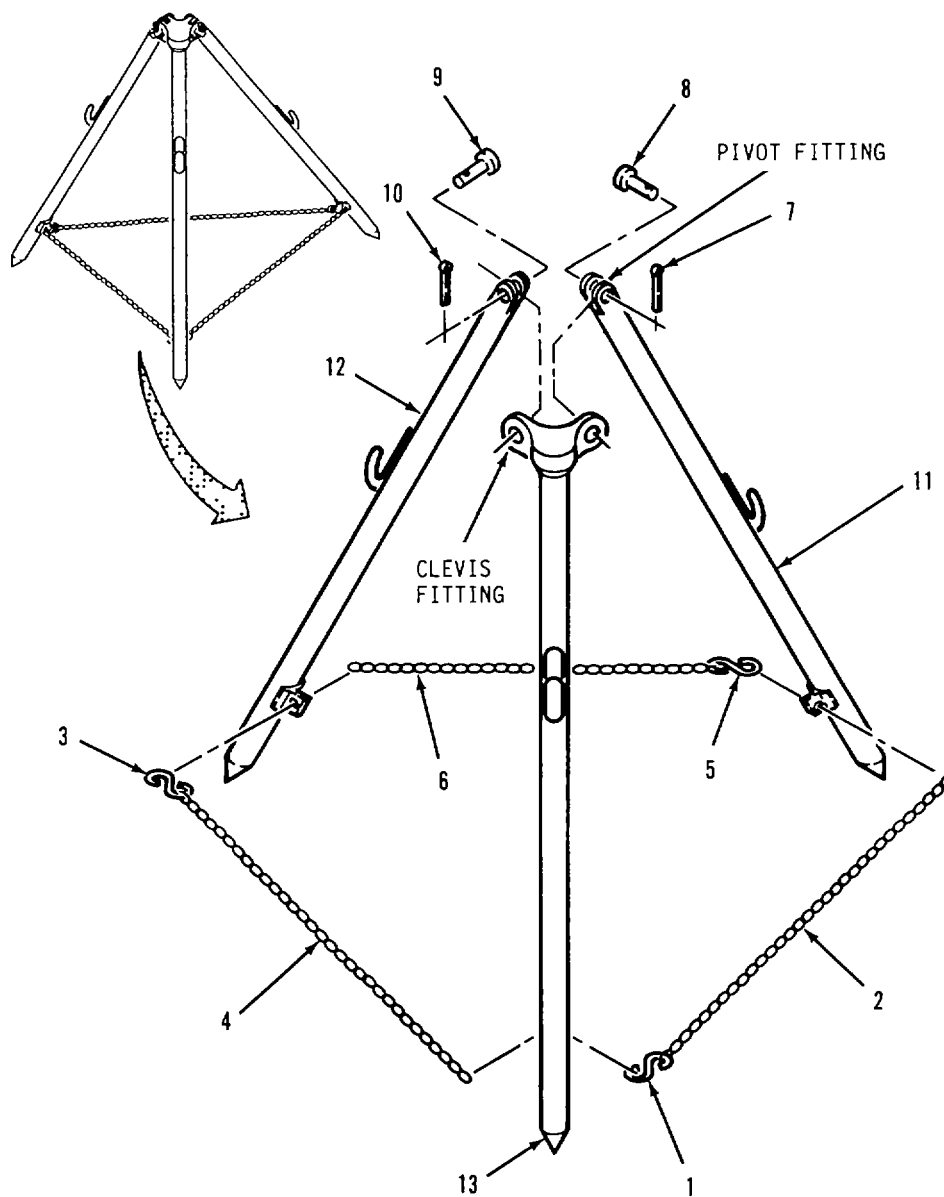

Figure 4-10. Nozzle Stand Repair.
a. Disassembly. Refer to figure 4-10.
(1) Unbend and remove S-hooks (1, 3 and 5) and disconnect chains (2, 4 and 6).
- (2) Remove cotter pin (7) and straight pin (8), then remove leg (11) from leg (13).
- (3) Remove cotter pin (10) and straight pin (9), then remove leg (12) from leg (13).
- (1) Inspect legs (11, 12 and 13) for cracks, broken clevis ends and bent or missing nozzle hangers.
- (2) Inspect chains (2, 4 and 6) for broken links.
- e. Assembly. Refer to figure 4-10.
- (1) Position clevis fitting on leg (13) over pivot fitting on leg (12).
- (2) Install straight pin (9) through pivot fitting and clevis. Install cotter pin (10) in straight pin.
- (3) Align clevis fitting on leg (13) with pivot fitting on leg (11).
- (4) Install straight pin (8). Install cotter pin (7) in straight pin.
- (5) Connect chains (2, 4, and 6) to legs (11, 12, and 13) with S-hooks (1, 3 and 5).
- (6) Position nozzle stand in water system.